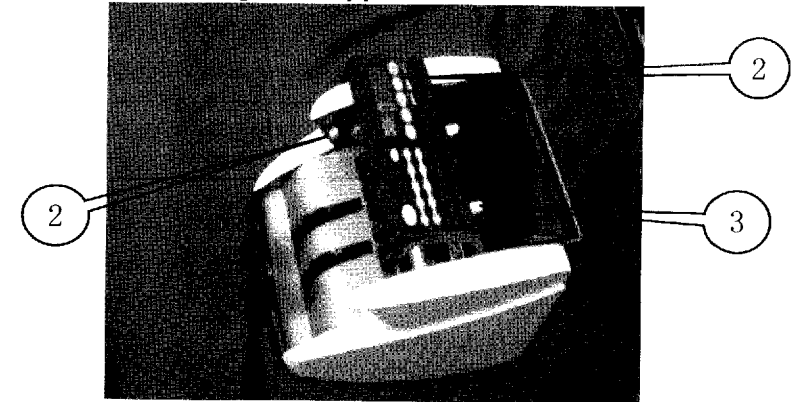

Fig 5
- 1) Use you hand or screw-driver to screw off the knob first (attached Fig 5)